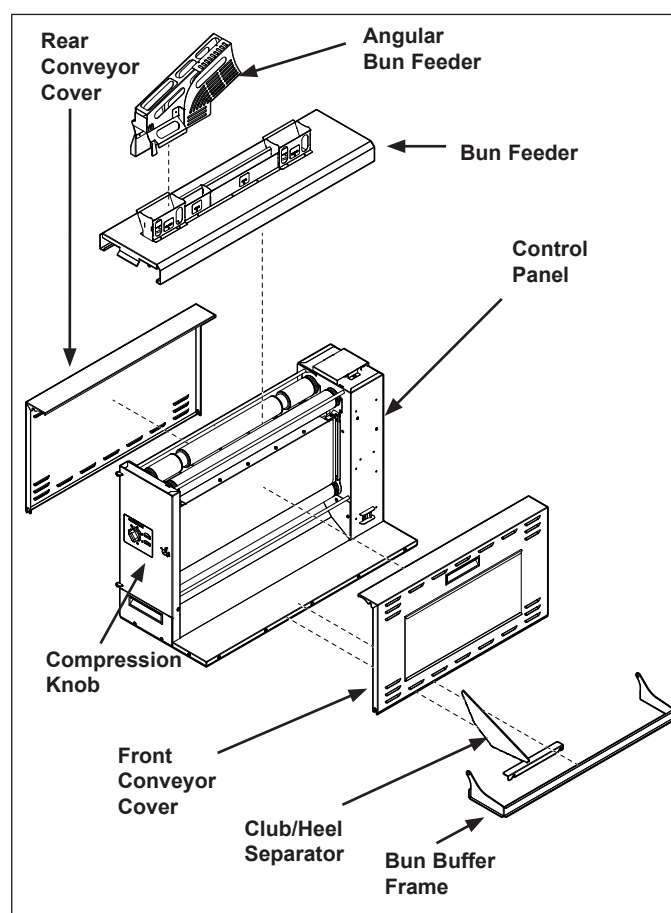

Figure 1. HEBT-5V Components (Belts not Shown)
2. Attach the Bun Feeder, Bun Buffer Frame, and Crown\Heel Separator accessories (Figure 1.)
2. See Figure 1. Press and hold the **MENU** button for five seconds.